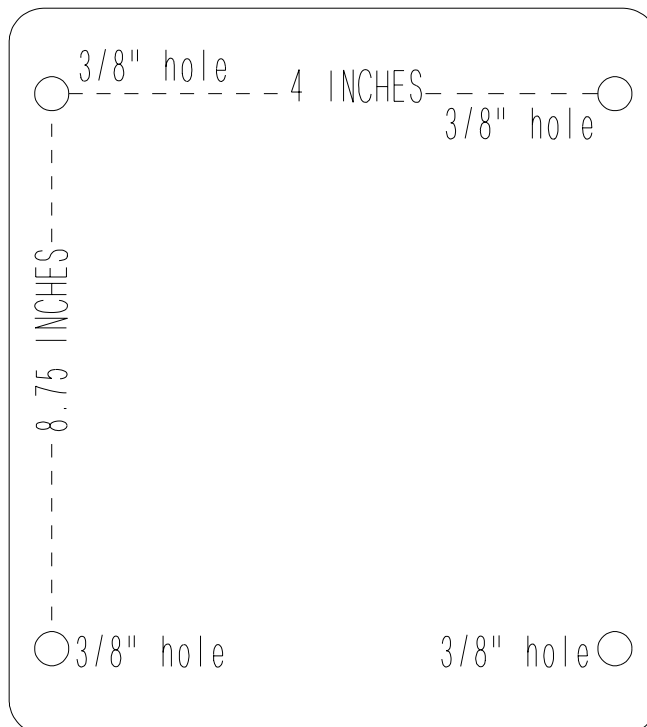

Figure 1: Illustration of the bolt pattern for the manual and econo control center.
3. Use the hole pattern in Figure 1 to drill holes for mounting the control box.